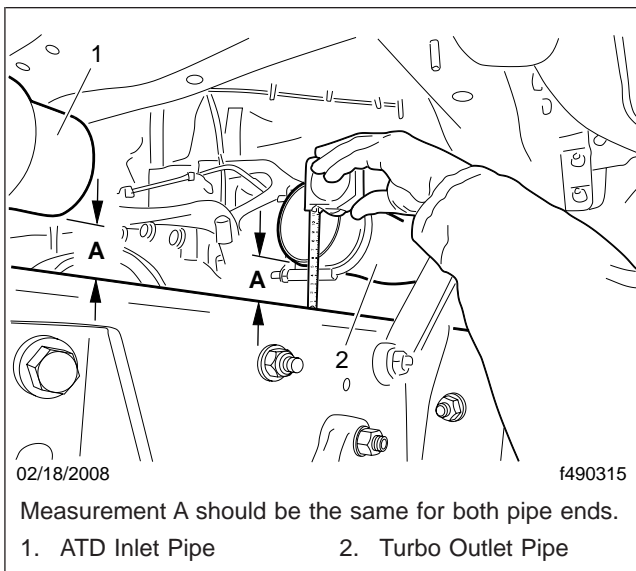

Fig. 2, Vertical Measurement
3.3 Measure the vertical distance between the pipe ends and the frame rail. See **Fig. 2**. This measurement must be the same for both pipe ends.